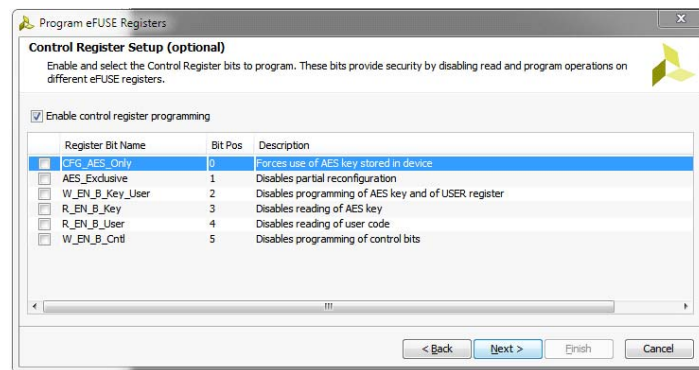

Figure 4: eFUSE Programming GUI (Control Register Setup)
**RECOMMENDED:** Program all 32 bits of the FUSE\_USER register when you program the AES key. Refer to Table 4, page 5 for a description of the FUSE\_CNTL register bits. The eFUSE Programming GUI/Control Register Setup is shown in Figure 4.